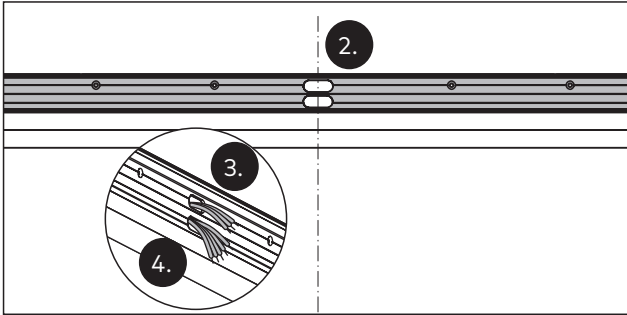

Fig. 9 Positioning the fixing bracket
- Position the fixing bracket on the center line (Fig. 9).
- The 230 V connection cable needs to pass through the upper hole in the fixing bracket (Fig. 9).
- Insert the cables for external devices through the lower hole in the fixing bracket (Fig. 9).